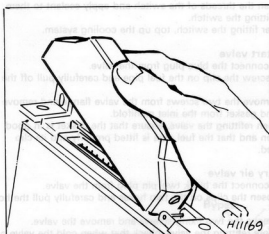

Fig. 13.64 Removing the control unit plug (Sec 8)
- 121 Press the spring clip of the left-hand end of the wiring harness plug and lift off the plug (Fig. 13.64).